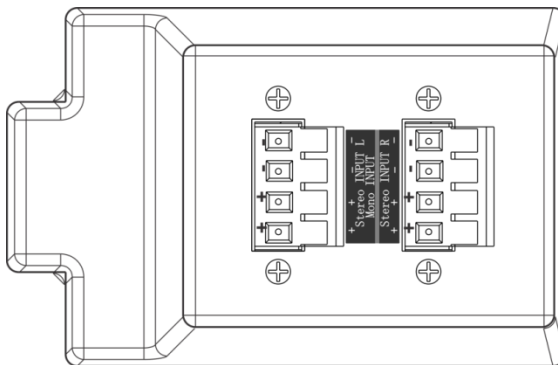

Figure 4: Yarden 8-T Terminal Blocks
Figure 4 illustrates the terminal block pinout for the mono and stereo setups:
4. Connect the speaker wires to the speaker terminals (see Figure 4) from the adjacent ceiling tile opening.